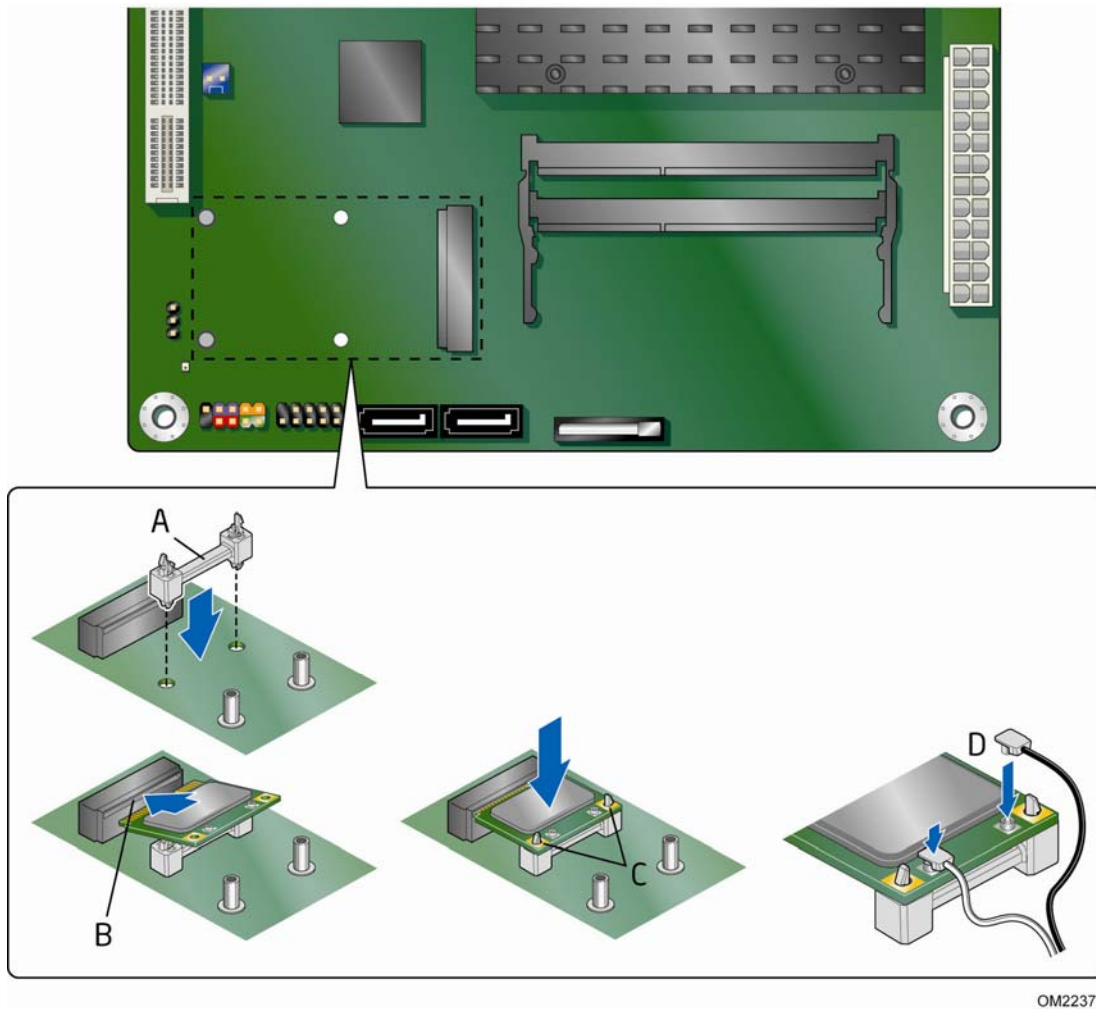

Figure 10. Installing a Half-Mini Card Wireless LAN Card
To install a Half-Mini Card wireless LAN card, see Figure 10 and follow these steps:
2. Insert the plastic Half-Mini Card latch in the mounting holes as shown in Figure 10, A.
3. Insert the wireless LAN card into the PCI Express Mini Card connector (Figure 10, B) at a slightly upward angle.
4. Align the card's mounting holes (Figure 10, C) with the plastic latch and snap it into place.
5. Attach your system's antenna wires to the connectors (Figure 10, D) on the wireless LAN card as shown.